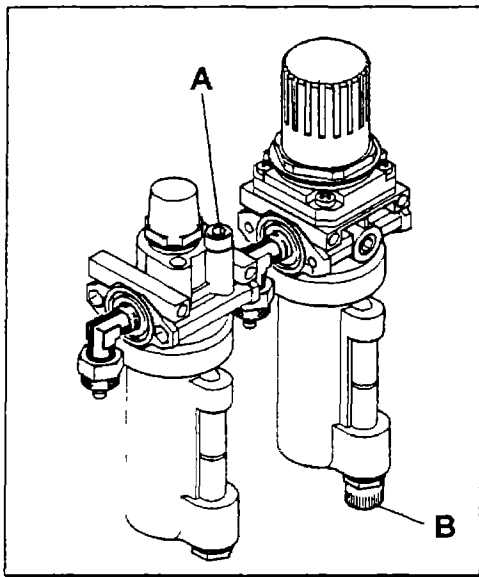

Fig.29
I. If the machine is equipped with an automatic air lubricator, check the oil level weekly. When adding oil to the lubricator, disconnect the air supply first, remove the fill screw 'A', and add oil as needed. Make sure seals are in place when replacing the cap. Drain water daily from water separator. Do this by pulling down the fitting 'B' (Fig.29).